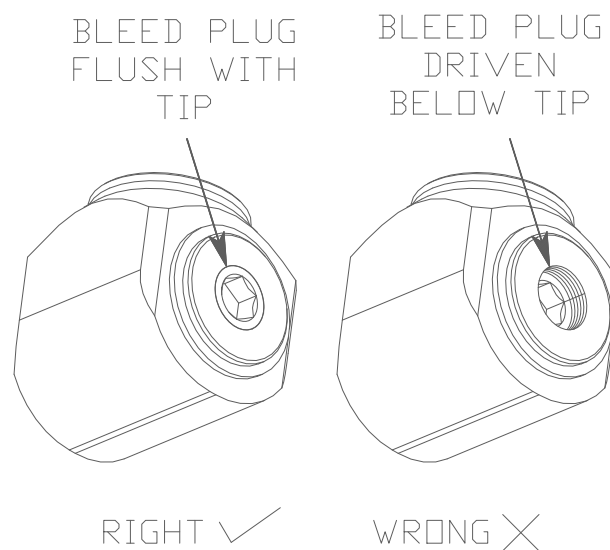

FIGURE 12 - PROPER BLEED PLUG INSTALLATION
- 7.10 Reinstall the squeezer plug and tighten. Use Teflon tape on the pipe threads. DO NOT over-tighten this bleed plug. Do not drive the plug substantially below flush, as shown in Figure 12.